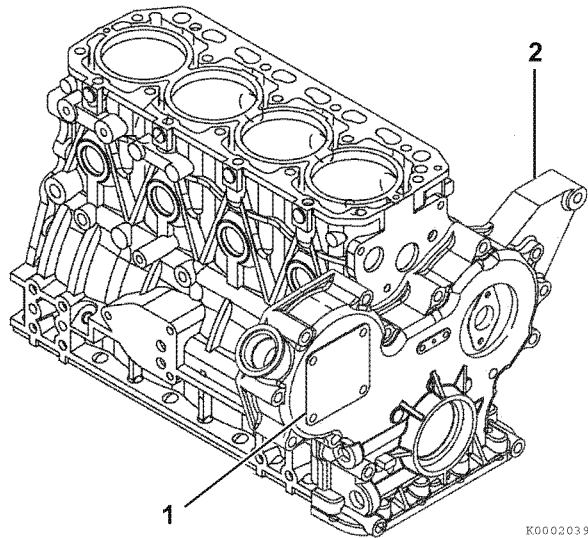

Figure 7-13
15. Remove the fuel injection pump drive gear cover (1, **Figure 7-13**) from the gear case cover (2, **Figure 7-13**).